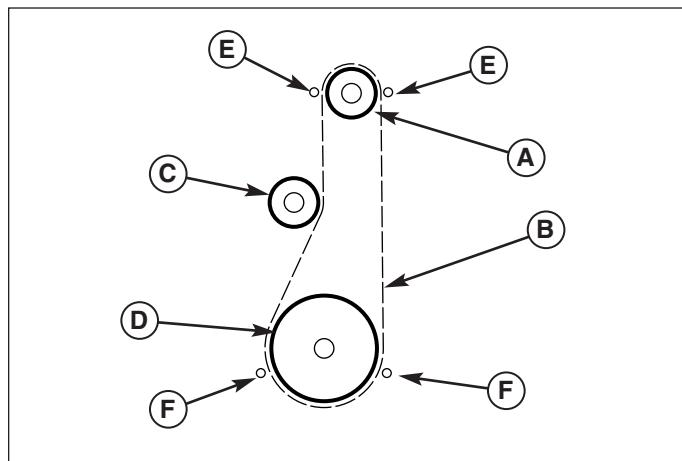

Figure 31. Belt Pattern (viewed from front)
6. Reverse the procedure to install the belts. Be sure there are no twists and the belts are properly seated in the grooves. Adjust the belt stops so there is 1/8" (3mm) clearance between belt and stop. The pattern for both belts is shown in Figure 31. Slide the right axle left fully before tightening the set collar (E, Figure 30).